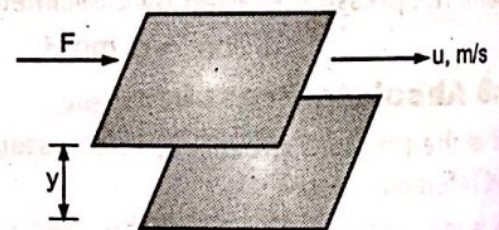

Fig. 7.4 : Definition of viscosity
Consider two layers of a fluid 'y' cm apart as shown in Fig. 7.4. Let the area of each of these layers be A cm2. Assume that the top layer is moving parallel to the bottom layer at a velocity of 'u' cm/s relative to the bottom layer. To maintain this motion, i.e., the velocity 'u' and to overcome the fluid friction between these layers, for any actual fluid, a force of 'F' dyne (dyn) is required.
- Consider a U-tube manometer as shown in Fig. 7.4 connected in a pipeline. Let pressure  $P_1$  be exerted in one limb of the manometer and pressure  $P_2$  be exerted in the another limb of the manometer. If  $P_1$  is greater than  $P_2$ , the interface between the two liquids in the limb 1 will be depressed by a distance 'h' (say) below that in the limb 2. To arrive at a relationship between the pressure difference ( $P_1 - P_2$ ) and the difference in the level in the two limbs of the manometer in terms of manometric fluid (h), pressures at points 1, 2, 3, 4 and 5 are considered.